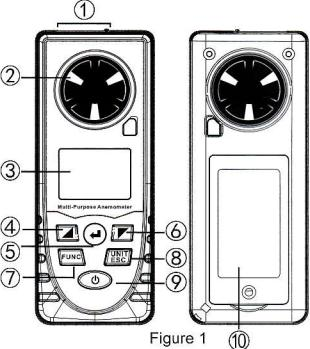

Figure 1
- Component names are shown in Figure 1.
- ①Open this cover when measuring illumination, and align to light sources;
- ②Fan blade;
- ③LCD display screen;
- ④ Button : leftwards/upwards/reduce;
- ⑤ Button : confirm/enter/start;
- ⑥ Button : rightwards/downwards/increase;
- ⑦ Button : switching the switching items of sensor;
- ⑧ Button : unit switch/exit/ backlight switch (on the data display interface of sensor, short press to switch unit, long press to backlight; on the setting interface, short press to exit, long press to backlight);
- ⑨ Button : startup & shutdown;
- ⑩ Battery door;